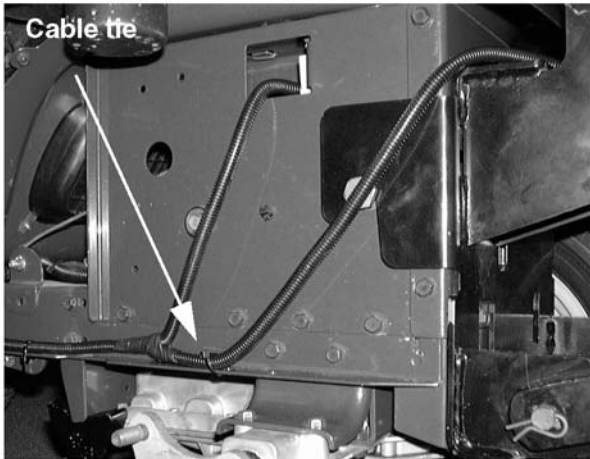

Figure 8-54.
29. Use a cable tie to attach this portion of the harness to the frame behind the left rear tire. See Figure 8-54.